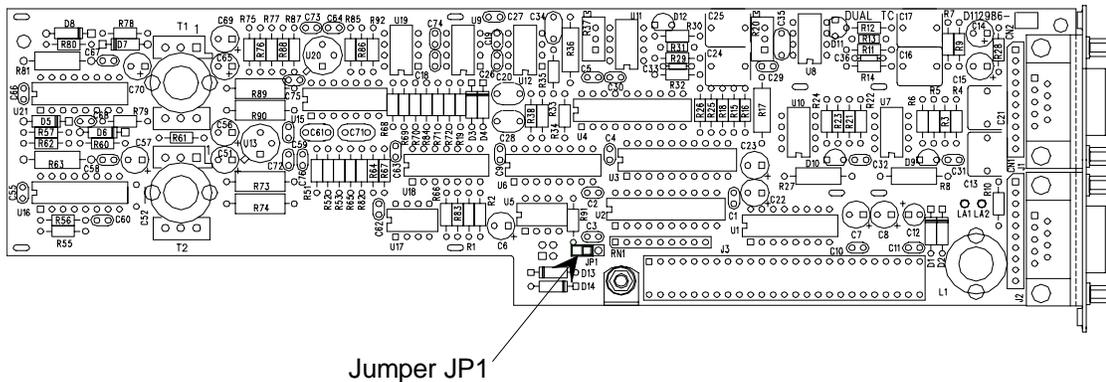

Figure 19: Jumper Placement on the Thermocouple Board
- Locate jumper JP1, as shown in Figure 19.